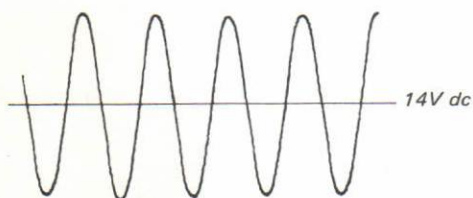
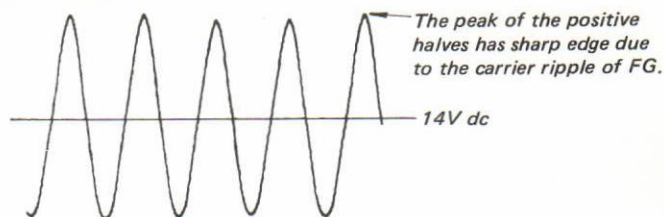

Fig. 33
Fig. 34
- The FG signal is derived from the junction of the emitters of Q901 and Q902, i.e., the voltage generated in the motor coil  $\phi 1$ , and this voltage is applied to terminal 3 of the comparator IC901, and its waveform is shown in Fig.33 below. The waveform generated in the coil  $\phi 2$  is as shown in Fig.34.